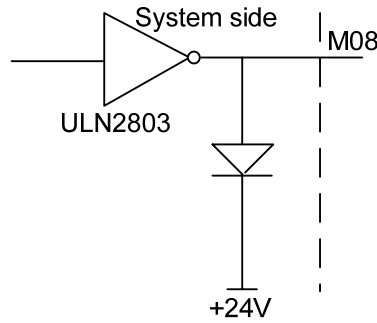

Fig. 4-13-1 M08 internal circuit
- The internal circuit is shown in the Fig. 4-13-1: